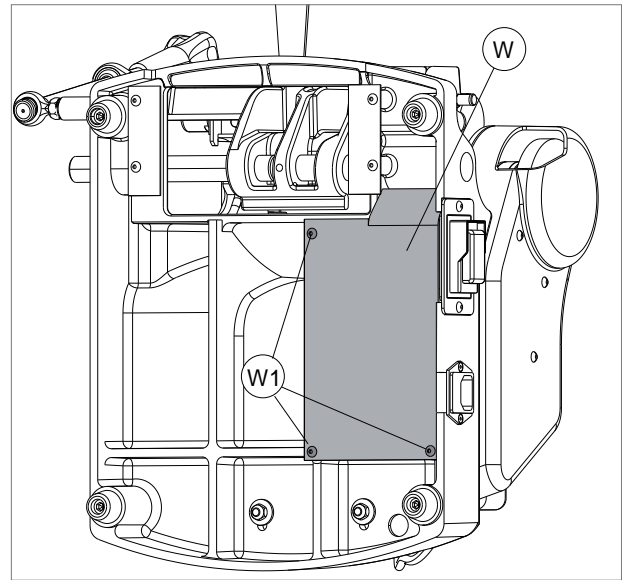

Fig. 56
- 4) Loosen the 3 screws (W1) and remove the plate (W) (Fig. 56).